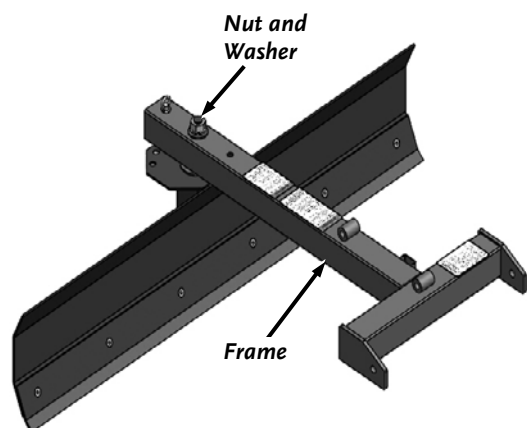

Figure 6
4. With assistance, assemble the Frame (Labels facing up) to the Blade Assembly Pivot Stud (**Figure 6**). Lay the front of the Frame onto the working surface.